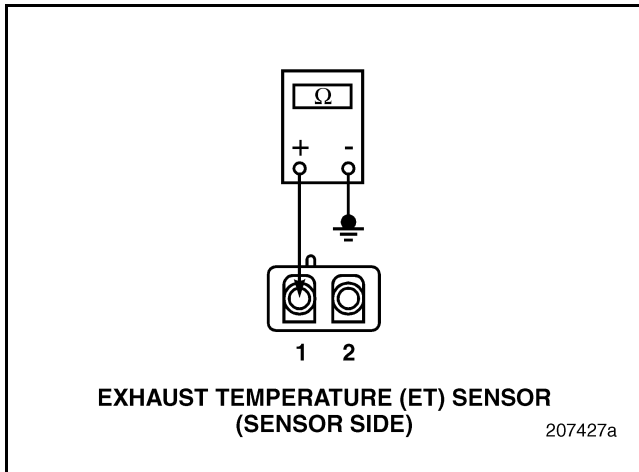

Figure 344
2. Disconnect the Exhaust Temperature (ET) Sensor connector.
3. Check for continuity between either pin of the ET Sensor and a good ground (see Figure 344).